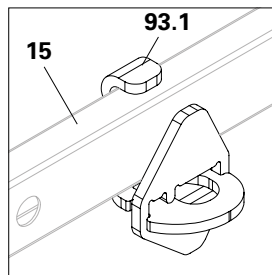

Fig. A11.06a
1. Place the suspension (93.1) of the Ledger to Ledger Coupler UHA (93) on the ledger (15) and hold it with one hand. (Fig. A11.06a)